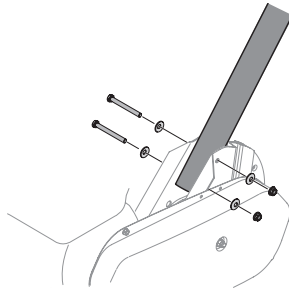

Figure 5
1. Remove the bolts, washers and nuts from the chain case bracket. See Figure 5.
2. Place the handle into position and secure with the previously removed hardware. See Figure 5.